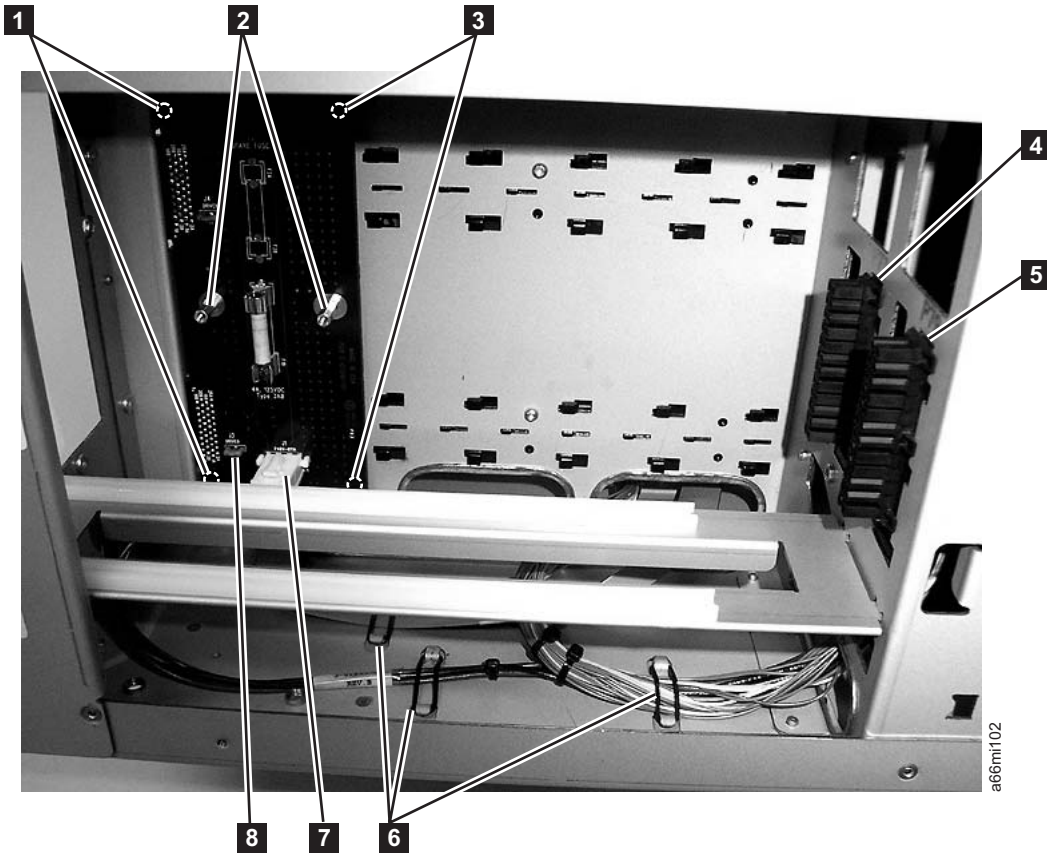

Figure 7-14. Drive Sled Interface Board connectors (side cover removed)
5. Visually check, and reseat if necessary, all of the connectors on the Drive Sled Interface Board (DSIB). See **7** and **8** in Figure 7-14.